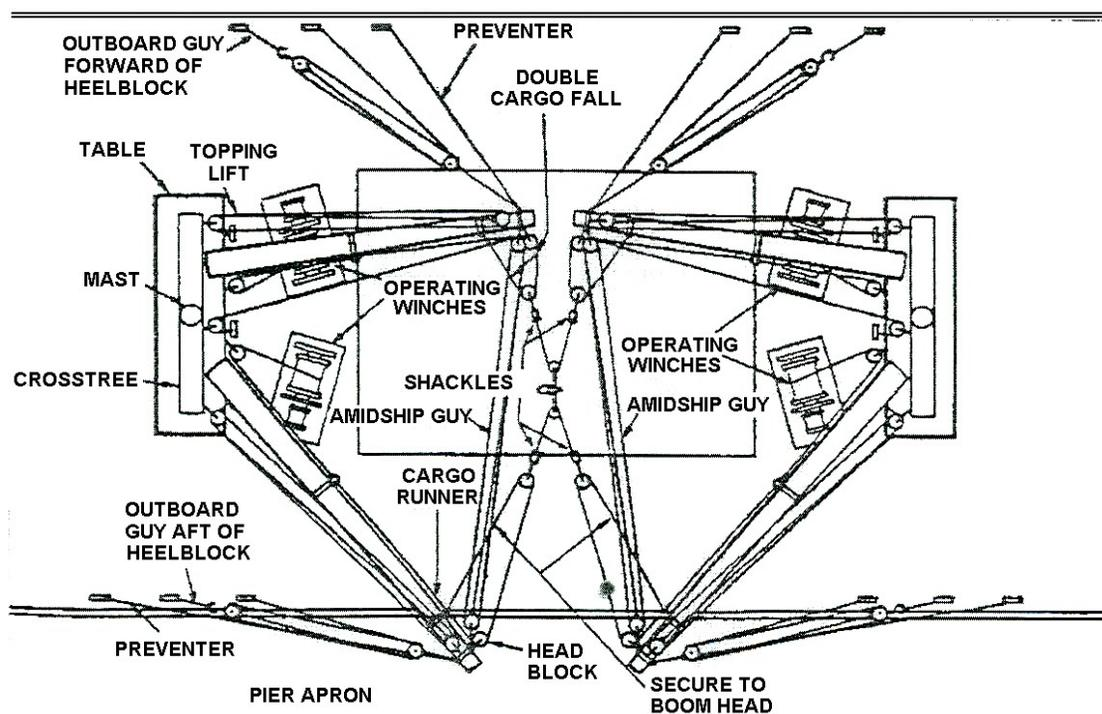

Figure 3-135
1. Direct the hatch gang to reeve the runners through a 12- to 14-inch block and double up the runners (see Figure 3-135).